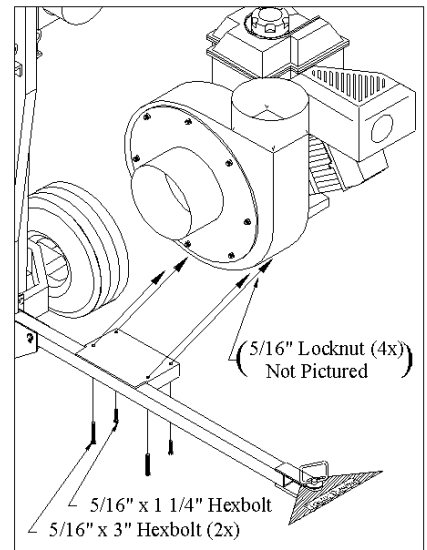

Fig. 6
6. Attach engine assembly to engine frame plate. Secure with two 5/16" x 1 1/4" HHC and two 5/16" x 3" Hexbolts and 5/16" locknuts. Fig. 6